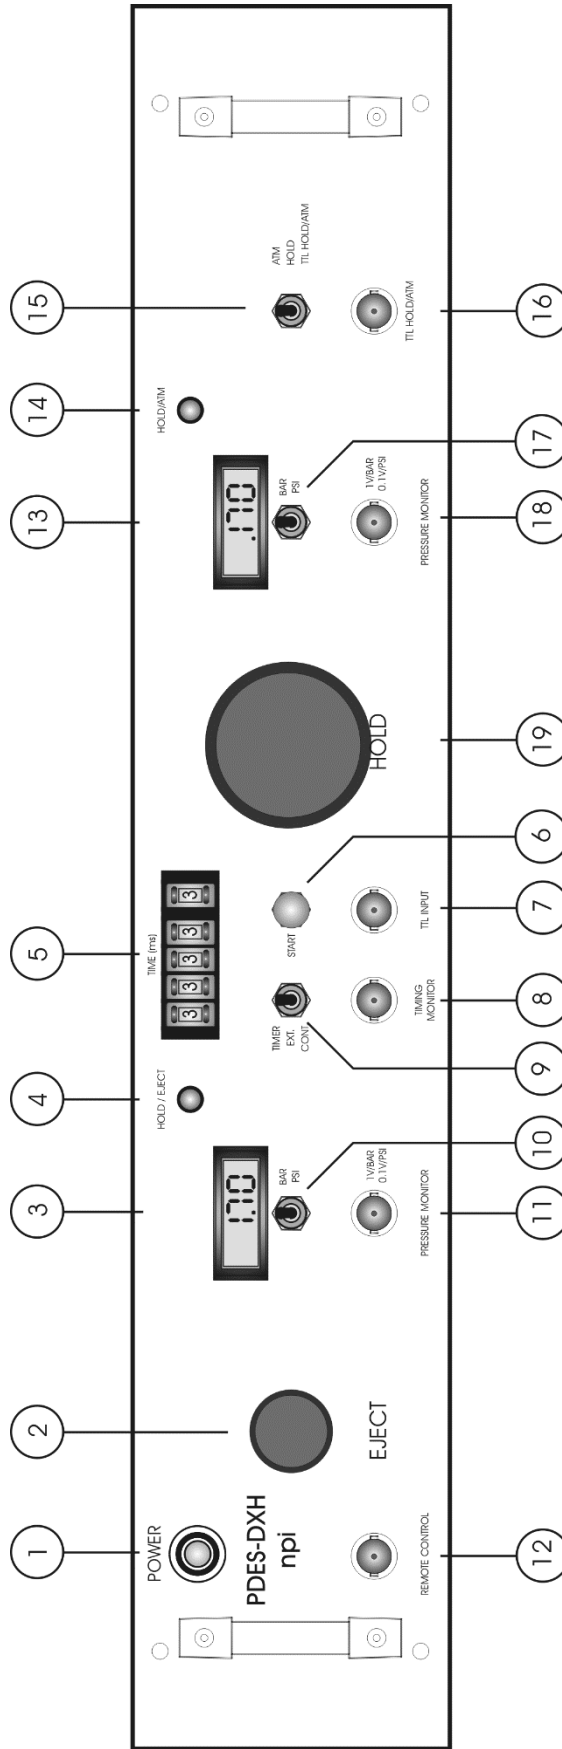

Figure 1: PDES-DXH front panel view (the numbers are related to those in the text below)
In the following description of the front panel elements, each element has a number that is related to that in Figure 1. The number is followed by the name (in uppercase letters) written on the front panel and the type of the element (in lowercase letters). Then, a short description of the element is given.
But another pressure/vacuum source can be connected. In this case, the pressure or vacuum is applied to the pipette if switch #15, Figure 1 is set to ATM or if ATM is selected by a TTL signal.
- Enable or disable HOLD / ATM pressure with switch #12, Figure 1.
- Select the operation mode using the respective toggle switch at the front panel (see Figure 1).
- In the TIMER position the duration is preset TIME SET unit (#5, Figure 1) of the PDES.
If EJECTION stops, a HOLD pressure remains at the pipette if switch #15, Figure 1 is set to HOLD. If switch #15, Figure 1 is set to ATM, the pipette is passively exhausted (atmospheric pressure).